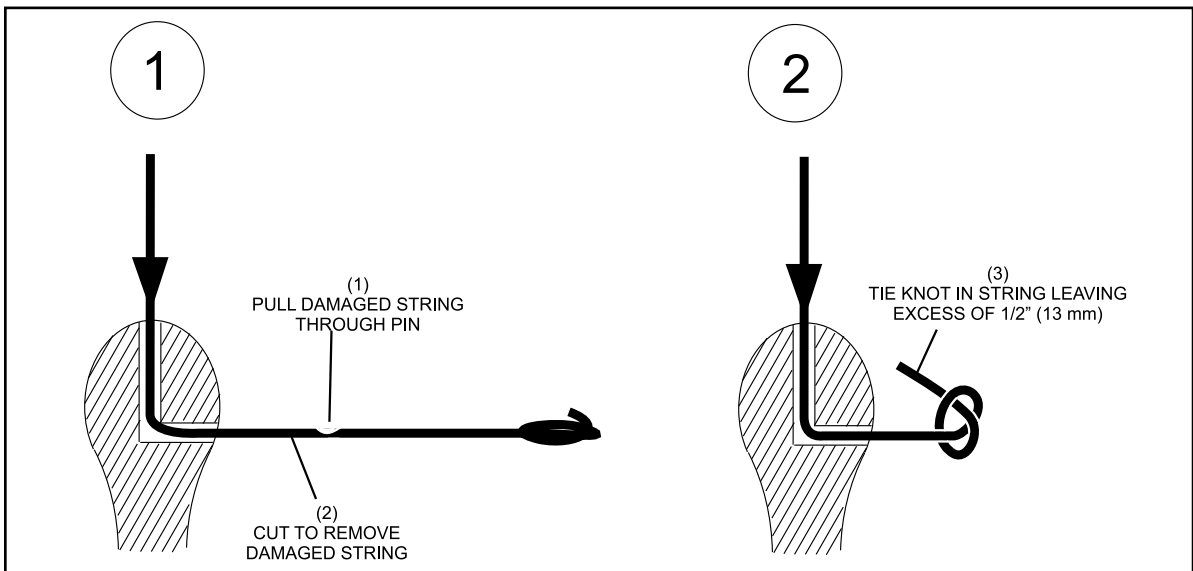

Figure 5-1. Thread String Through Pin
2. From under the setting platform, pull the string through the machine towards the pin. Continue pulling the string through the head of the pin so that the worn portion of the string is all the way through the pin. Refer to *Figure 5-1*.
- (1) PULL DAMAGED STRING THROUGH PIN (2) CUT TO REMOVE DAMAGED STRING (3) TIE KNOT IN STRING LEAVING EXCESS OF 1/2" (13 mm)
4. Tie a knot in the end of the “good” string. Leave approximately 1/2” (13 mm) of string extending beyond the end of the knot. Refer to *Figure 5-1*.
5. Pull the string back through the pin until the knot bottoms out in the pin. Refer to *Figure 5-1*.
7. At the pin end of the new string, thread the string through the head of the pin and tie a knot in the end of the string. Leave approximately 1/2" (13 mm) of string extending beyond the end of the knot. Refer to *Figure 5-1*.
8. Pull the string back through the pin until the knot bottoms out in the pin. Refer to *Figure 5-1*.